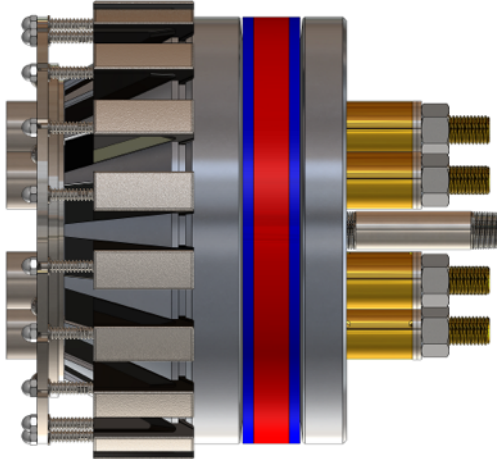

Figure 3: Not Ready to Install
- In the Compressed state, shown in *Figure 3*, the GripSafe ST Plug’s **Wedge Grippers(3)** will obstruct insertion into the pipe.
NOTE: To check IIB **Wedge Gripper’s(3)** freedom of movement, the **Compression Hex Nuts(9)** have to be tightened first to the point where the **Spring Plate Hub(21)** is in the Compressed state, see *Figure 3*, and is flushed with the **Retainer Plate(20)**. After checking for **Wedge Gripper’s(3)** freedom of movement, loosen the **Compression Hex Nuts(9)** so that the plug is in the Retracted State before installation.